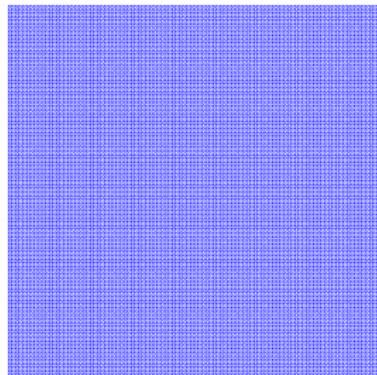

Figure 21: Initial mesh
The objective is to remesh the structured 1×1 mesh with the error function from Figure 21 and equation (6)